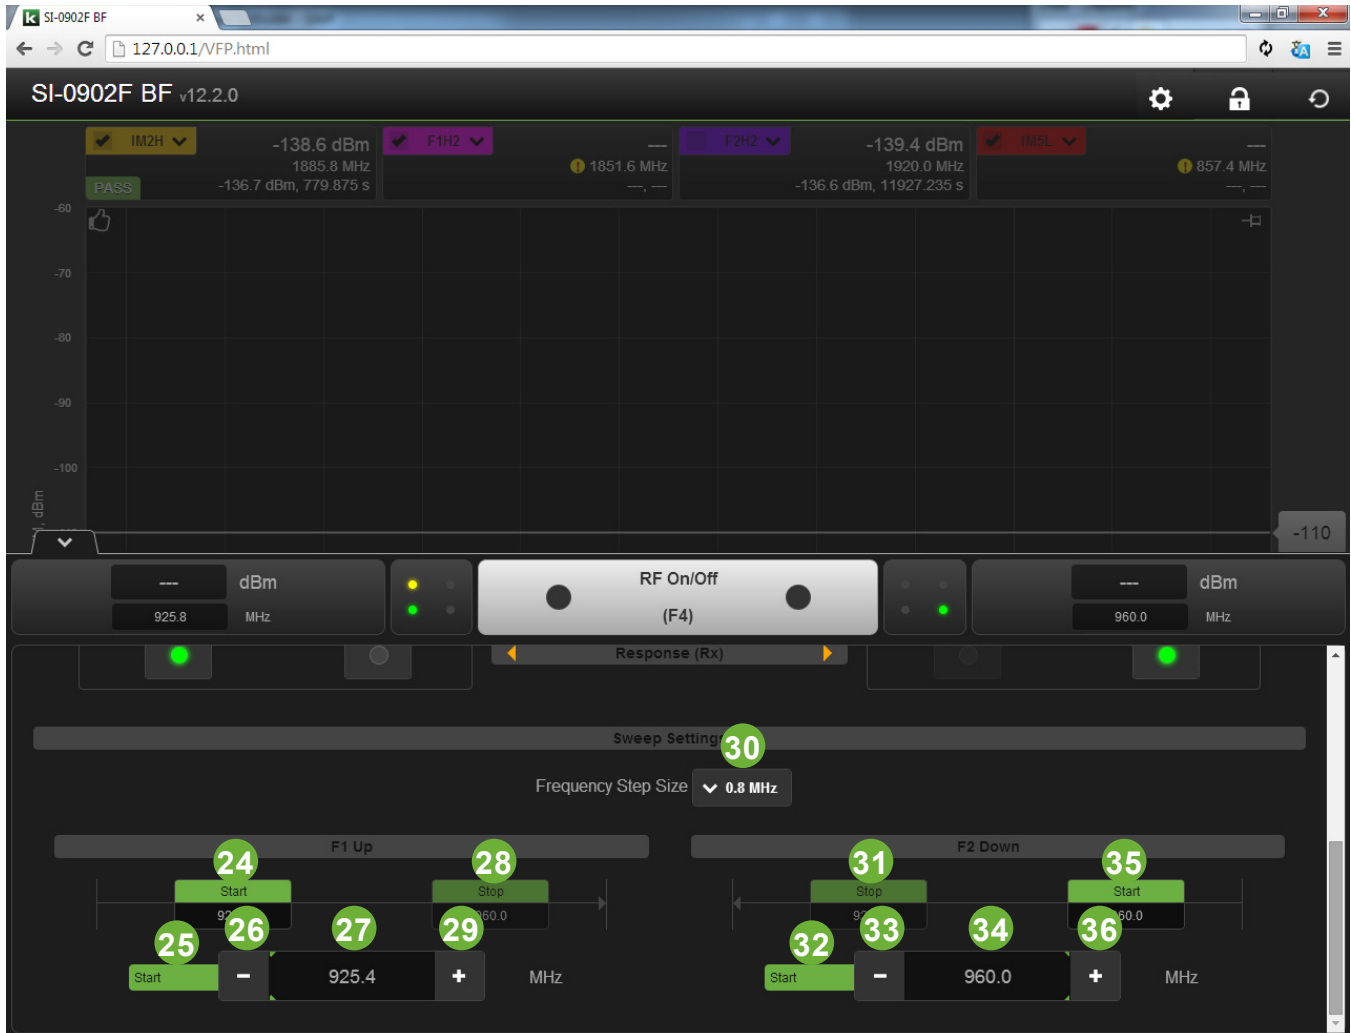

Figure 27 Advanced Control Panel (Lower Part)
Adjusts both F1 and F2 Frequency set points to the edges of the band, likewise the swept frequency ranges (See Figure 27 items 24,28,27 and 31,34,35) are set to the edge of the band.